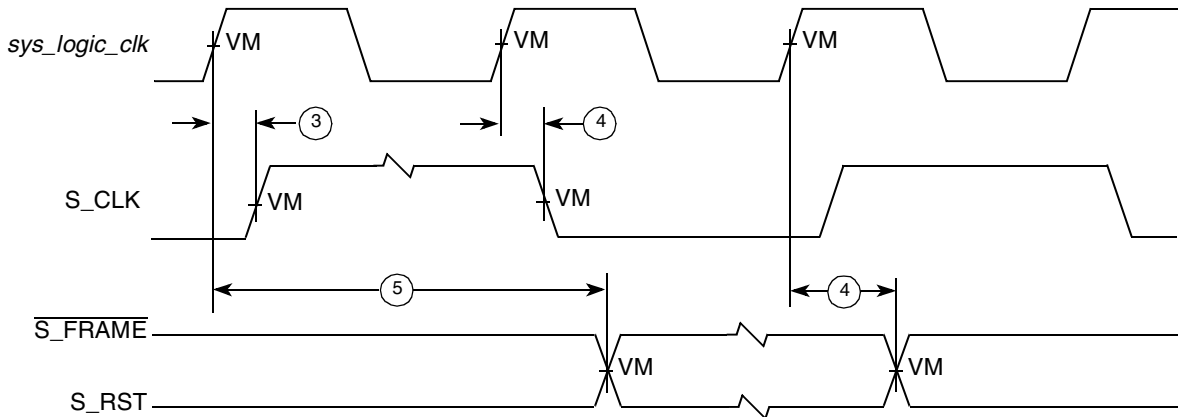
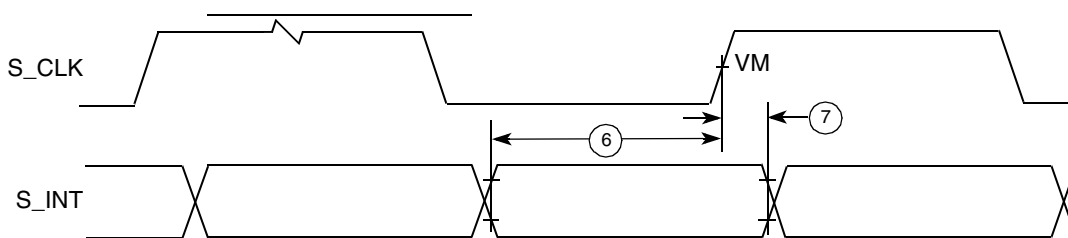

Figure 18. PIC Serial Interrupt Mode Output Timing Diagram
Figure 19. PIC Serial Interrupt Mode Input Timing Diagram
2. S\_RST,  $\overline{S\_FRAME}$ , and S\_INT shown in Figure 18 and Figure 19, depict timing relationships to *sys\_logic\_clk* and S\_CLK and do not describe functional relationships between S\_RST,  $\overline{S\_FRAME}$ , and S\_INT. The *MPC8245 Integrated Processor Reference Manual* describes the functional relationships between these signals.